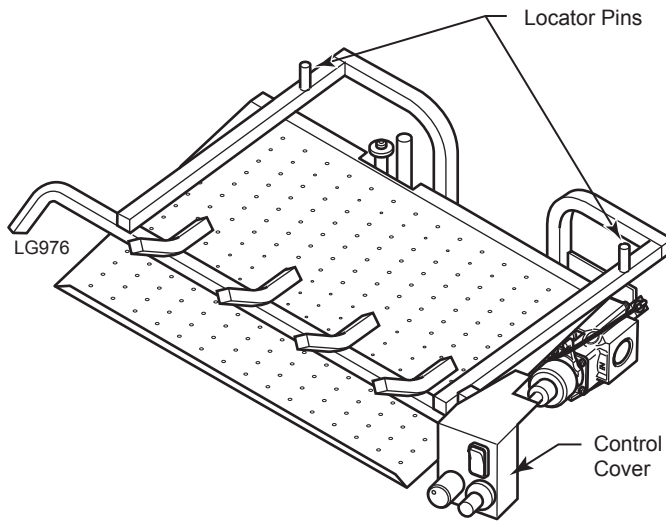

Figure 35
2. Place back log (#1) on back of base aligning two (2) pins on base with holes in bottom of log. *Figure 35*